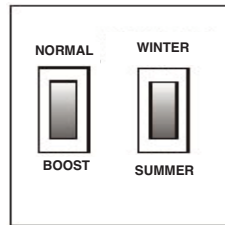

Fig 7 Fan Speed Control
- 5.2 The unit must be set up as detailed in section 5.3, so that the NORMAL setting on the fan speed control (see Fig. 7) enables the INLET fan to deliver the designed volume airflow. The switching from NORMAL to BOOST allows the unit to extract at a greater rate to cope with any increase in the build up of condensation or foul air, e.g. when cooking etc.